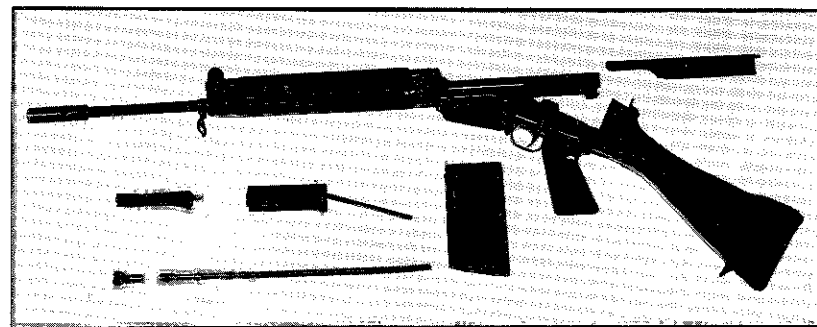

Fig. 3
9. Disassembling and assembling. — Stripping and assembly for cleaning and normal maintenance can be done without the aid of any tools. For ordinary cleaning purposes it is sufficient to take out the magazine, gas plug and piston and the slide/bolt assembly (fig. 3). The latter can be withdrawn with the greatest of ease as the butt is hinged to the receiver and the weapon only has to be swung open to give immediate access. The return springs, which are encased in the butt, should never be removed.